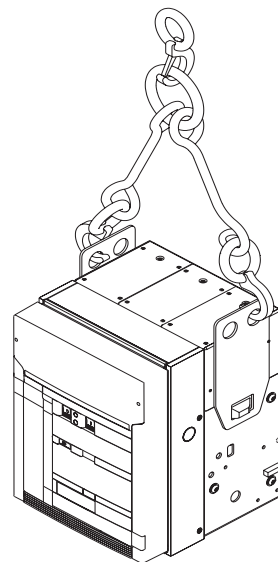

Fig. 41
- if the circuit-breaker is the plug-in type, work with it withdrawn from the fixed part (Fig. 41).
- if the circuit-breaker is the plug-in type, work with it withdrawn from the fixed part (Fig. 41)
- Remove the flange (1) of the release by turning the screws (2) as shown in figure 41.
- Remove the front escutcheon plate (3) by removing the four screws (4).
- Remove one or both of the side guards (5) (if installed) by removing the front (6) and side (7) screws.
- Remove the arc chutes (8) by taking out the screws (9).